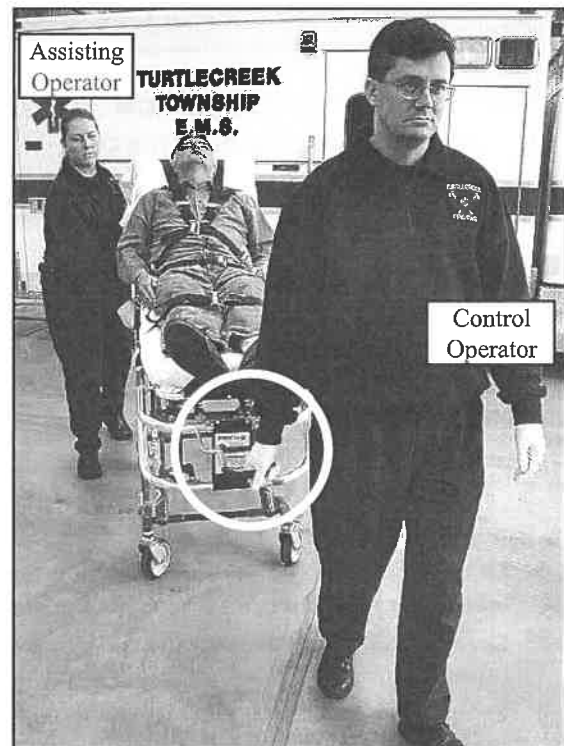

Figure 25 - Rolling the Cot
- Control Operator:** Position yourself at the foot end of the cot, grasp the main frame, and pull the cot forward. Or, if rolling the cot on a smooth, flat surface, unfold the lead handle and pull the transporter (Figure 25).
- Assisting Operator:** Position yourself at either the head-end of the cot (grasping the drop frame) or at the side of the cot near the patient's torso (grasping the main frame, Figure 25). Attend the patient and assist in rolling and steering the cot.